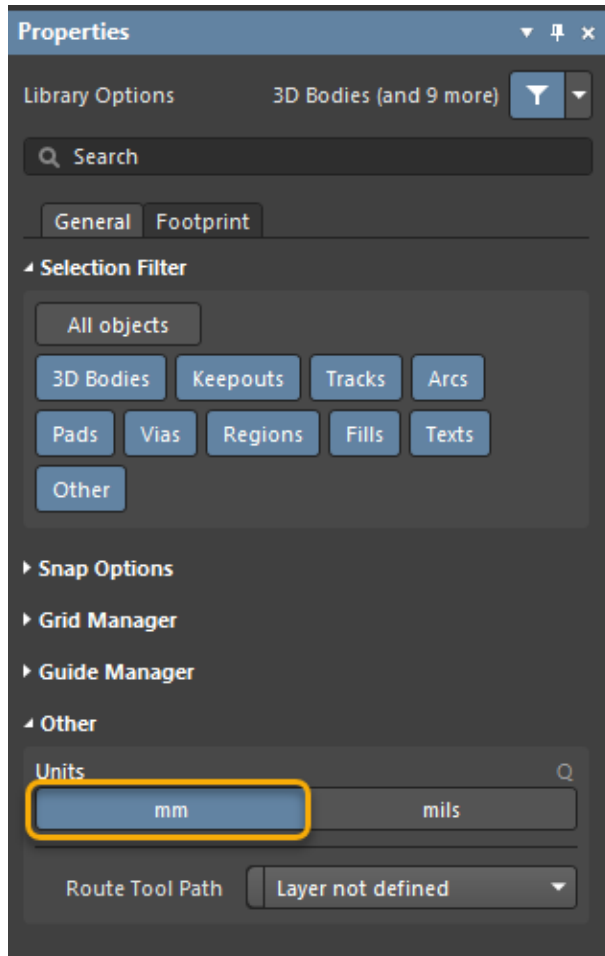

Figure 24. Measurement Units
36. Change the measurement units to **Metric**, by either using the **Q** key the when the editing space is active, or by scrolling down the *Properties* panel and selecting **mm**, Figure 24.